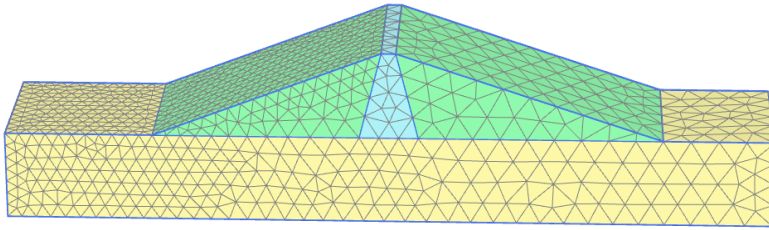

Figure 7.4 The resulting mesh
-  Click the *View mesh* button in the side toolbar to preview the mesh. The resulting mesh is displayed in Figure 7.4.